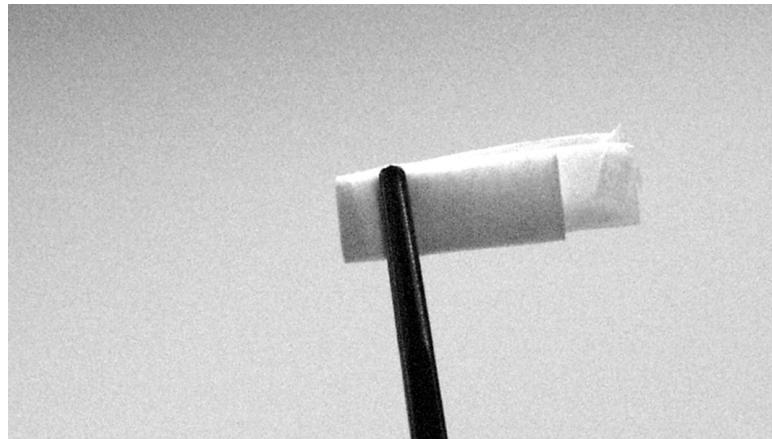

Figure 6-15. Hemostat Attached to Properly Folded Lens Tissue
3. Attach a hemostat to the lens tissue as shown in Figure 6-15.